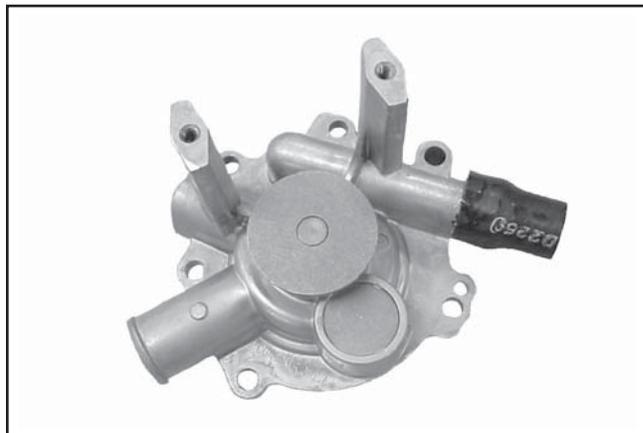

Figure 11-47. Assembling Hose to Water Pump.
5. Apply rubber lubricant to the inner surfaces of the short hose section. Assemble the hose to the outlet of the water pump and secure with the larger diameter clamp. Orient the clamp so the tangs extend out in the 3 to 4 o'clock position. See Figures 11-47 and 11-48.